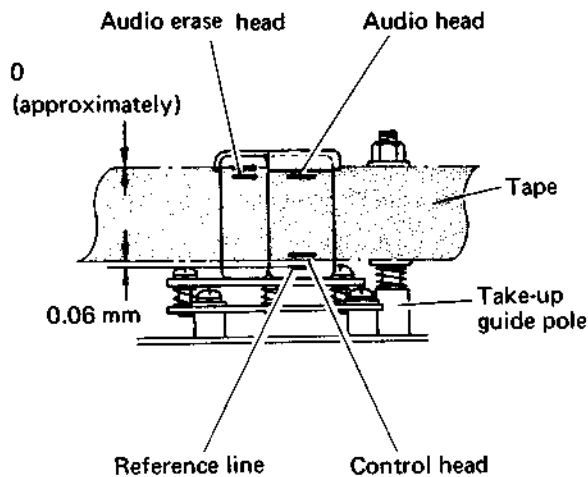

Fig. 5-8 A/C head adjustment-2
3. Carefully and evenly adjust screws A, B and C to align the audio/control head height with the tape as shown in Fig. 5-8.